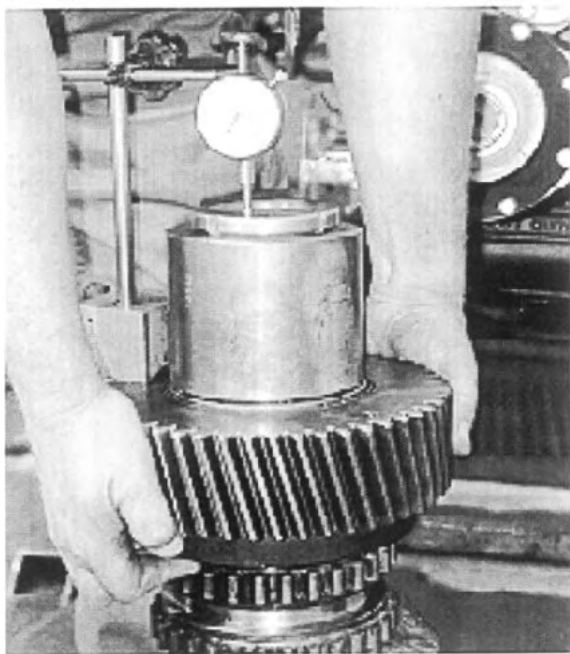

Fig. 47
7. Attach a dial indicator, as shown, and record the gear float by lifting up on the lower direct drive gear. The gear float should be: **0.0005-0.0020 loose**. See Fig. 47.